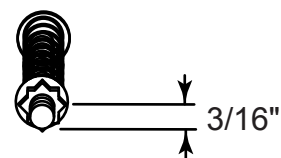

Figure 38 - Replacing Glass (Inside of Frame Shown)
3. Wrap new glass with tadpole gasket. *See Figure 38.*
5. Slide door back down onto insert and fasten. *See Figure 38.*